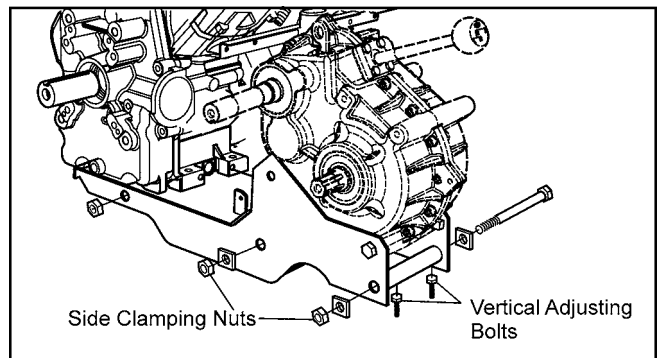

Figure 7-13. Location of power pack clamping nuts and adjusting bolts
2. Loosen the 2 left side clamping nuts with a 15/16" socket wrench (figure 7-13).
Loosen the power pack clamping nuts and adjusting bolts as shown in Figure 7-13 and proceed as follows: